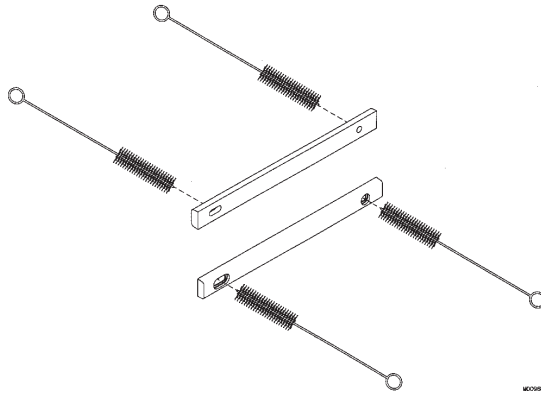

Figure 6-8 Clean beater shaft pin holes
d. (See figure 6-8.) The beater shaft and the scraper blade pin holes.